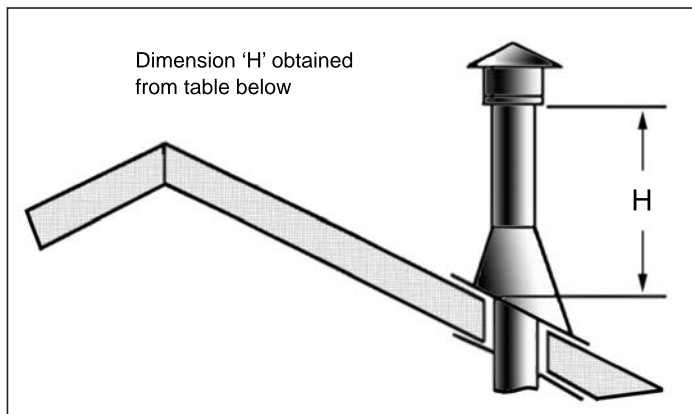

Figure 46: Height of Vertical Termination; Reference Table 7
- Step 8.** Continue to add pipe sections until the height of the vent cap meets the minimum code requirements. Refer to Figure 46 and Table 7. Note that for steep roof pitches, the vent height must be increased. In high wind conditions, nearby trees, adjoining roof lines, steep pitched roofs, and other similar factors can result in poor draft, or down drafting. In these cases, increasing the vent height may solve the problem.
Table 7: Minimum 'H' for Figure 46.